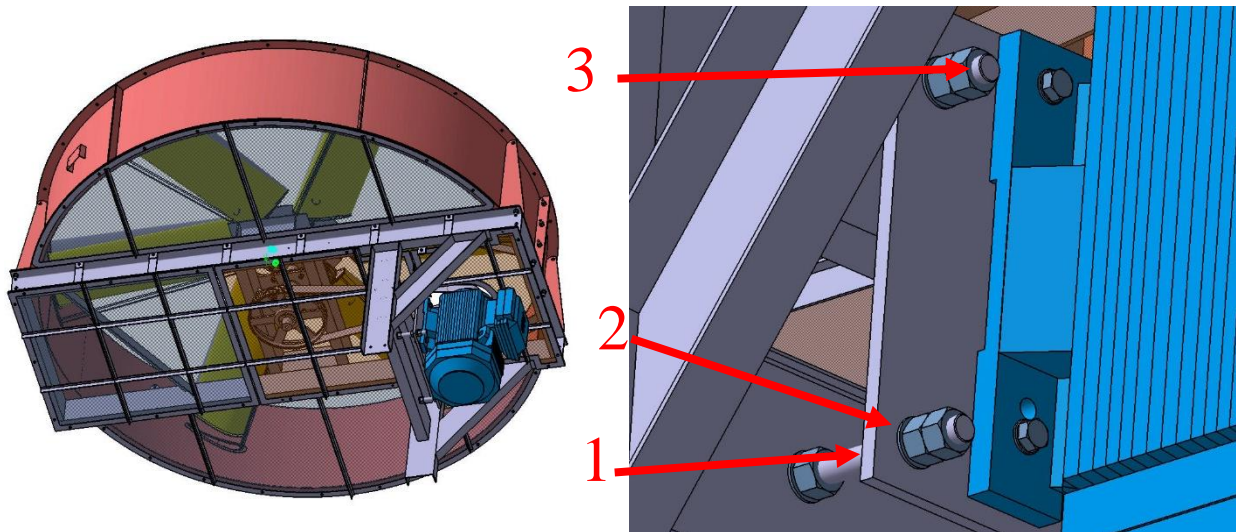

Figure 5-3: Tensioning for fan models “TFF-01”
1. Loosen the locknuts (1 and 3, Figure 5-3) at the four ends of the motor plate.
2. Tighten the nuts (2) to bring closer the two pulley packages or move away, in order to reduce or increase the belt tension.